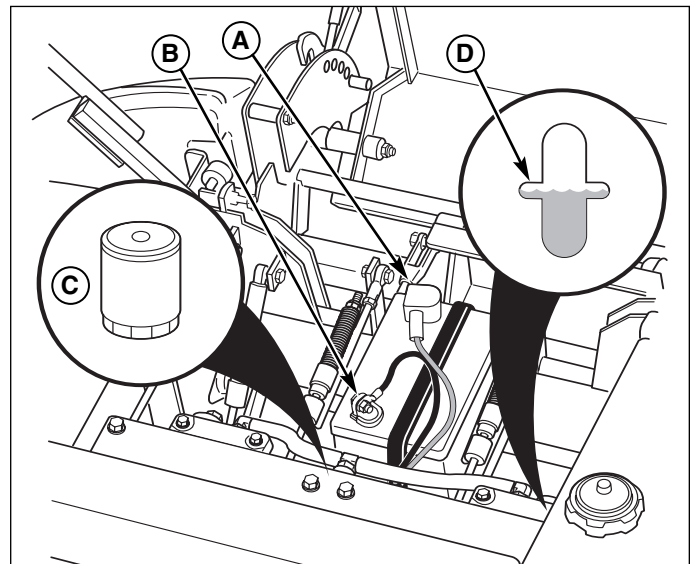

Figure 24. Battery Compartment
1. Locate the transmission oil filter (C, Figure 24) at the rear of the battery compartment under the seat.